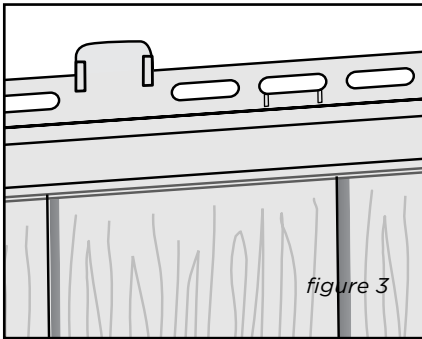

figure 3
3. Fasten the panel to the wall by first nailing through the round center hole in the nailing hem at the top of the panel. Continue nailing the panel with 5 nails: one in the right-end nail slot and one at each of the QuickReference™ Nail Mark Indicators (figure 3). Leave 1/8" to 1/16" between the nail heads and the panel to allow freedom of movement during normal expansion and contraction. The D7 panel features NailStop™ to guide in correct nail head clearance.